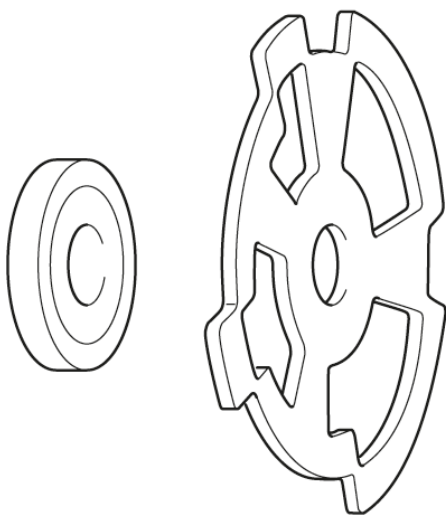

Fig. 1: Encoder wheel with pressed-out spacer ring
**Sprockets made of sintered metal:** Encoder wheel and spacer ring are two separate parts (Fig. 1). The spacer ring is pressed into the sprocket. The camshaft sensor encoder wheel is mounted with the pressed-in spacer ring to the camshaft in front of the sprocket.